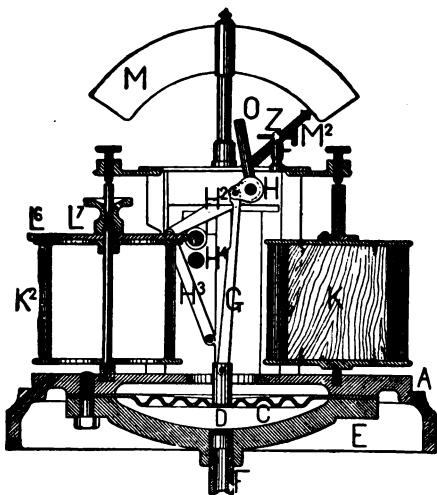

FIG. 74.—EDSON'S RECORDING AND ALARM GAUGE. (Vertical Central Section.)
A. There is a diaphragm D, Fig. 74, so corrugated that its movement under pressure shall be practically uniform for equal increases of pressure. From this